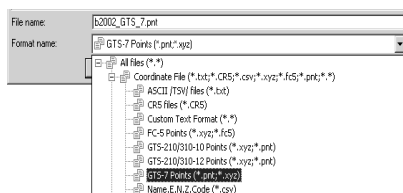

Figure 4-4. File Format
- Select the file format if known beforehand (Figure 4-4).